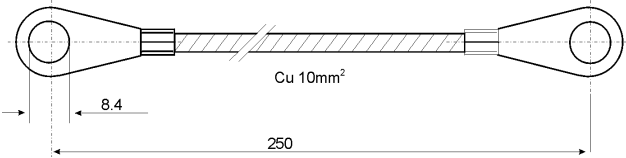

Fig. 8 Flexible copper strap (supplied with every load cell)
- Directly when installing the load cell, by- pass the load cell with the flexible copper strap of at least 10mm2 provided for this purpose (fig. 8), to prevent welding or lightning stroke current from passing through the load cell and damaging it.